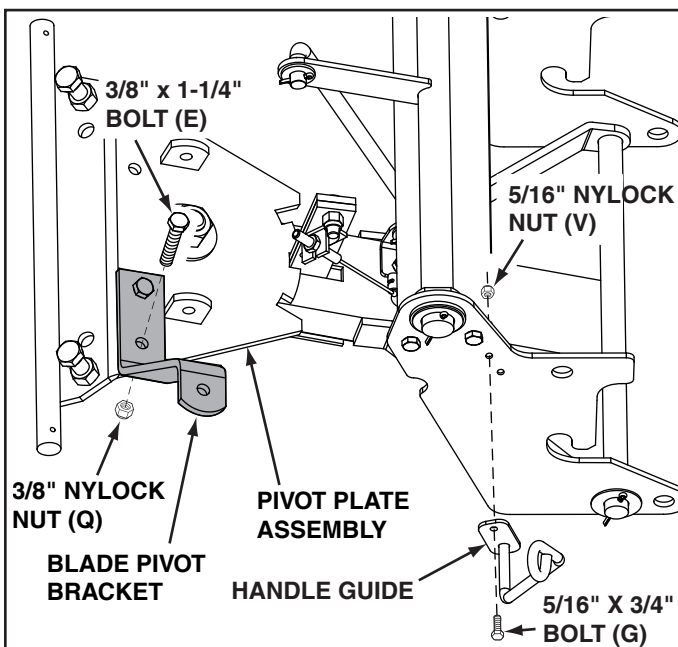

FIGURE 17
STEP 16: (SEE FIGURE 17)
- Assemble the blade pivot bracket to the pivot plate assembly using two 3/8" x 1-1/4" bolts (E) and 3/8" nylock nuts (Q).
- Assemble the handle guide to the frame assembly using a 5/16" x 3/4" bolt (G) and 5/16" nylock nut (V).